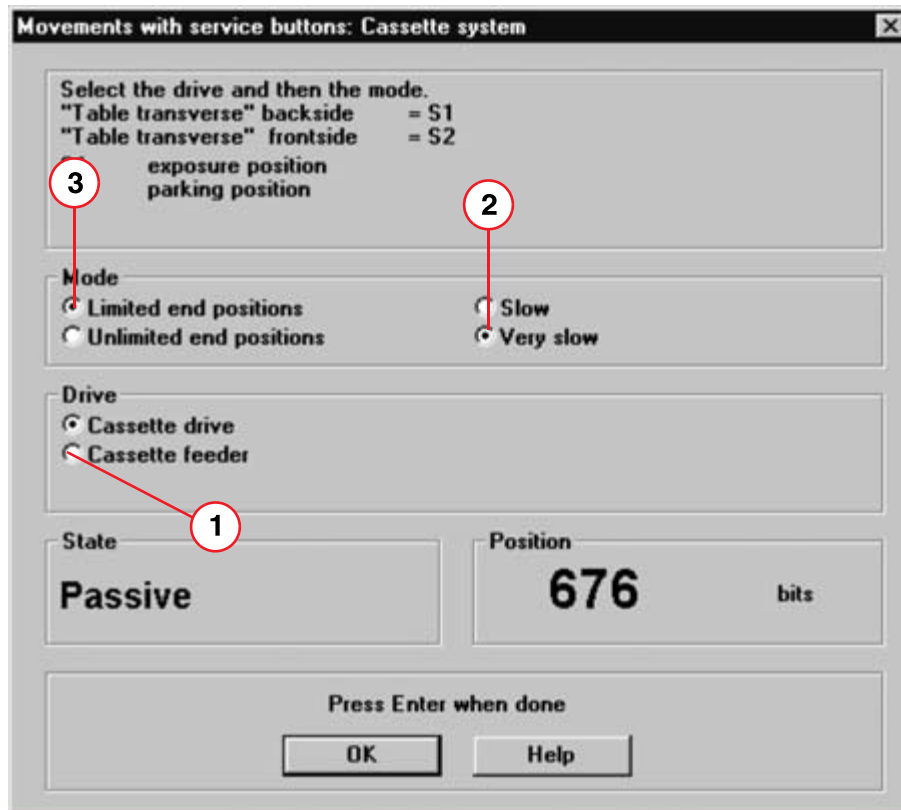

Fig. 79: Window "Movements with service button: Cassette system"
- Select **Execute** (The following window appears (Fig. 79 / p. 82)).
- Select **Cassette drive** and **very slow** (1/2/ Fig. 79 / p. 82).